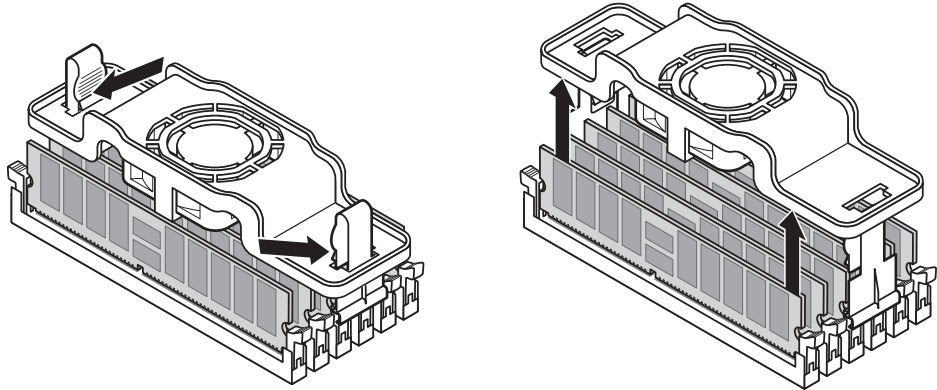

FIGURE 5-7 DIMM Fan Removal
2. Remove the DIMM fan assembly by disconnecting the DIMM fan cable from the main fan module, then squeezing the vertical fan support bars to release the DIMM fan (see Figure 5-7).